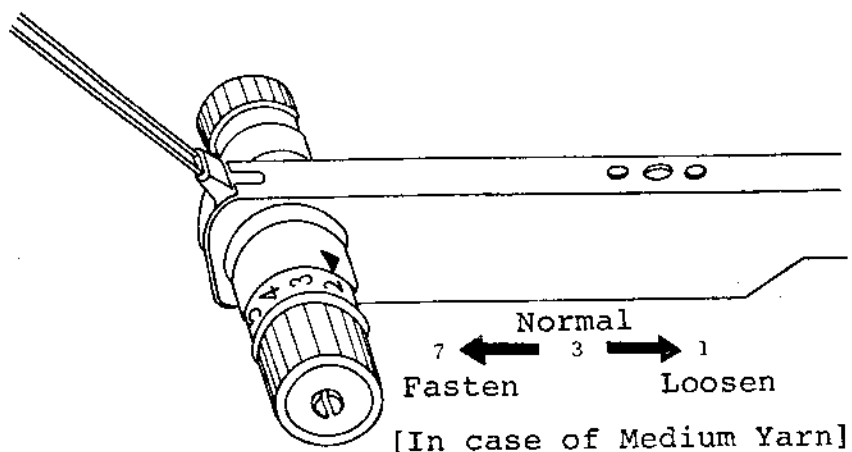

Fig. 121
- a) If the tension put on the yarn is too weak, the stitches will come off the when the Carriage returns owing to an imperfect take up of slack yarn. To correct this, adjust the Tension Spring with the Tension Dial, so that it will stop within the range illustrated in Fig. 121, depending on the thickness of yarn used.